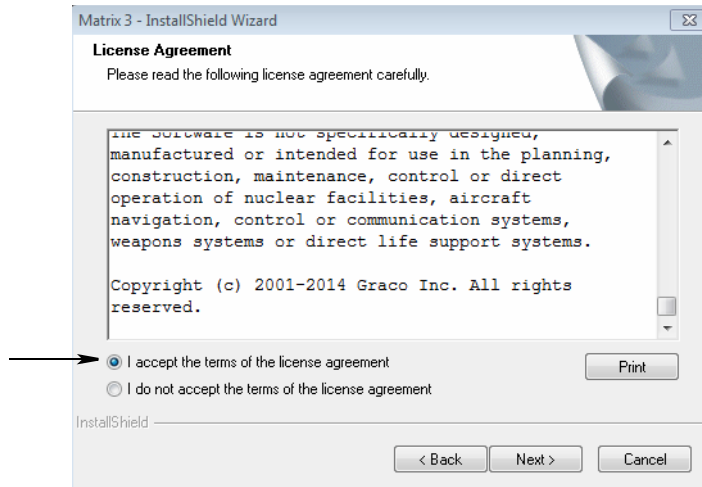

FIG. 4
- Review the End User License Agreement (FIG. 4). If acceptable, select “I accept the terms of the license agreement”. After accepting the terms of the license agreement, the NEXT button becomes active. Click the NEXT button.